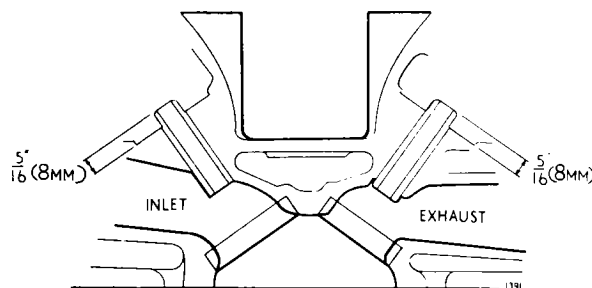

Fig. 63. Showing the fitted position of the valve guides.
- (d) Coat the valve guide with graphite grease and press in, or drive in with a piloted drift, from the combustion chamber end. The correct fitted position for both inlet and exhaust guides is with the top of guide (chamfered end) $\frac{5}{16}$ " (8 mm.) above the spot facing for the valve spring seat. (See Fig. 63).